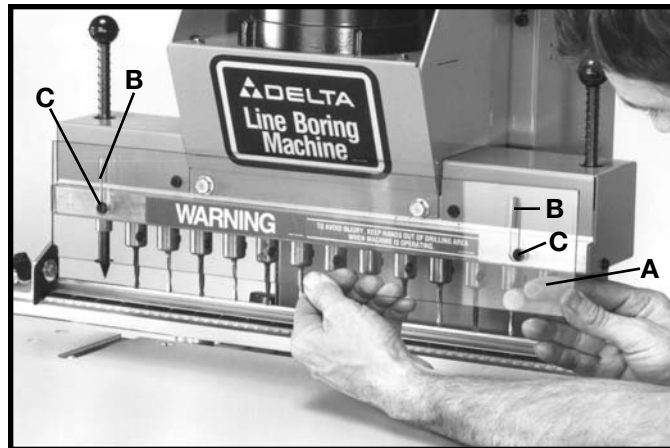

Fig. 39
2. Assemble the clear plastic guard (A) Fig. 39, to the front of the boring head making sure the two slots (B) are engaged with the two spacers and screws (C). **IMPORTANT: It will be necessary to bend the guard (A) outward slightly at the center, as shown, when assembling the guard.**